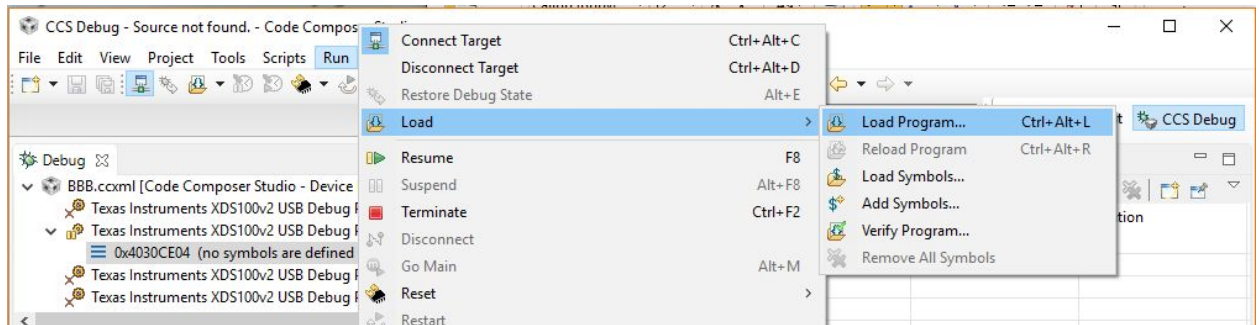

Figure 24 : Load the .out file
- To see the registers displayed, go to **View-> Registers**. When the **Register** list pops up, select **Core Registers**. You should then see the familiar **R0-R14** registers (shown in Figure 24) with the value in each displayed. Values are updated as a program runs. (The values of flags and other bits in the CPSR register can be seen by expanding the CPSR register inside the register window.)